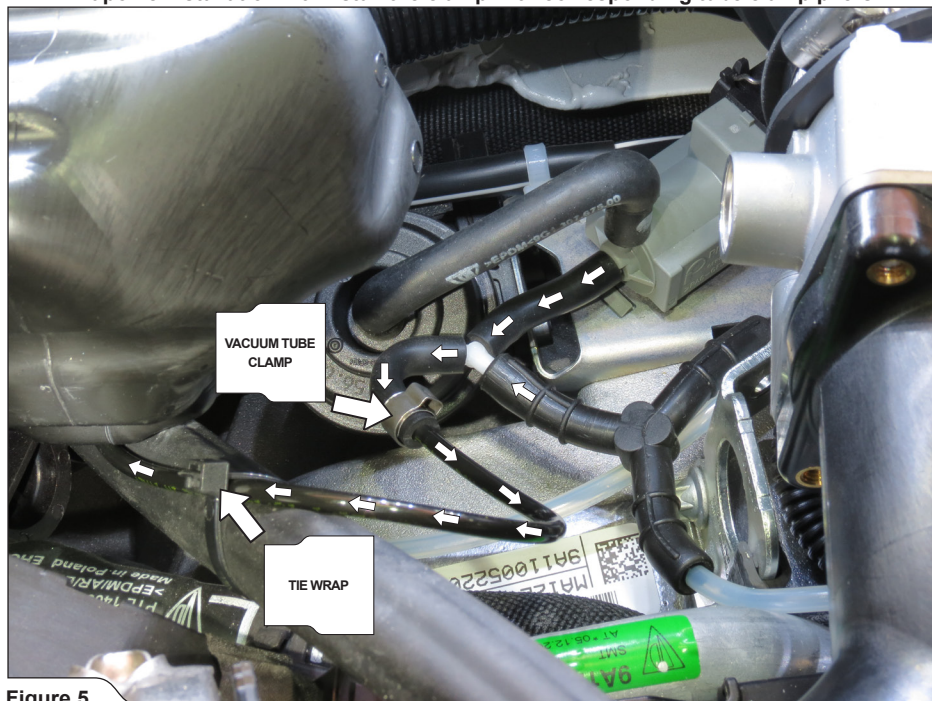

Figure 5
5. Insert the Akrapovič vacuum line between stock electromagnetic valve and stock vacuum tube, using two 4cm connecting hoses, plastic Y piece distributor and 125cm PVC vacuum hose; direct the PVC hose towards the right side of the transmission and secure it to the transmission cable with the tie wrap (Figure 5).